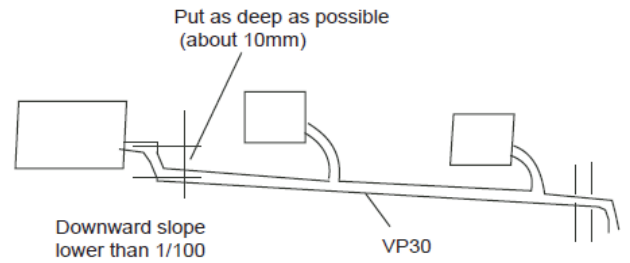

Fig. 13 —Using a Main Drain to Serve Multiple Indoor Units
- Condensate piping should slope downward in the direction of condensate flow with a minimum gradient of 1 inch per 100 inches. See Fig. 13.